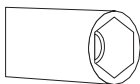

Figure 3
1. Please use driver with special head for removed and install nozzle as. (figure 3)